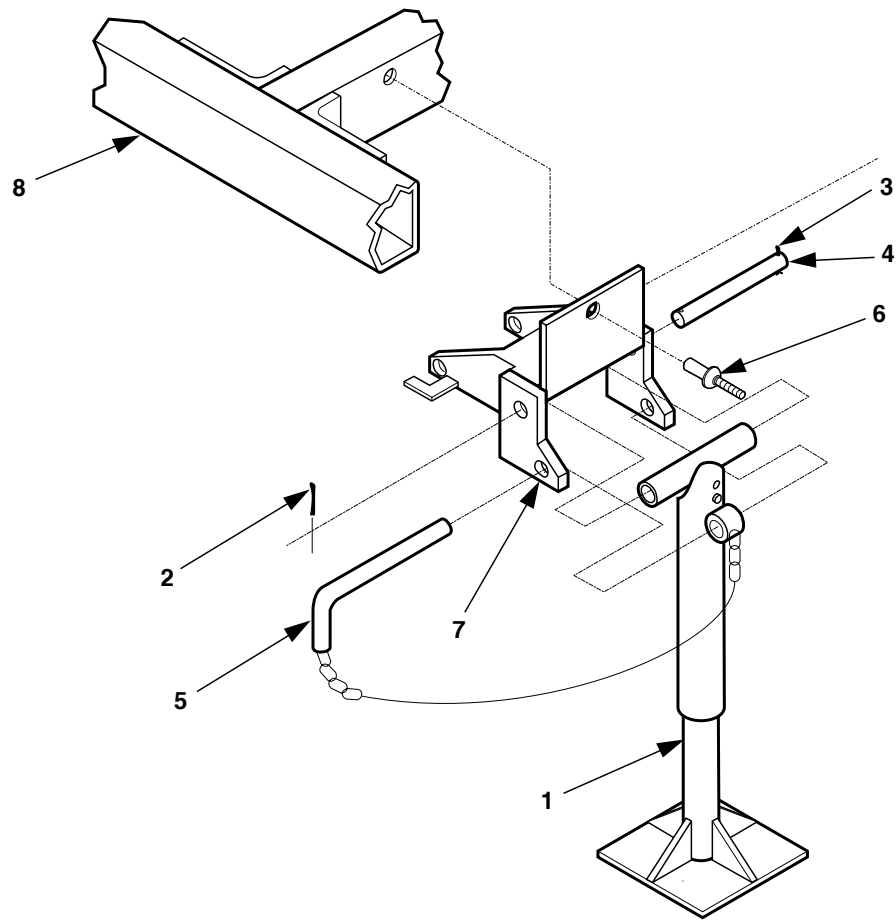

Figure 5-28. Rear Leveling-Support Jack Replacement, Light Tactical Trailer.
2. Turn leg base (1, figure 5-28) to take weight off leg prop.
3. Remove either one of two cotter pins (2 or 3) from pivot shaft (4) and discard cotter pin.
4. Hold leg base (1) steady and remove pivot shaft (4) with remaining cotter pin in place.
5. Lift leg base (1) slightly to take weight off retaining pin (5) and remove retaining pin. Move leg base (1) and attached parts out of bracket (7).
6. Remove three rivets (6) and bracket (7) from trailer chassis (8).